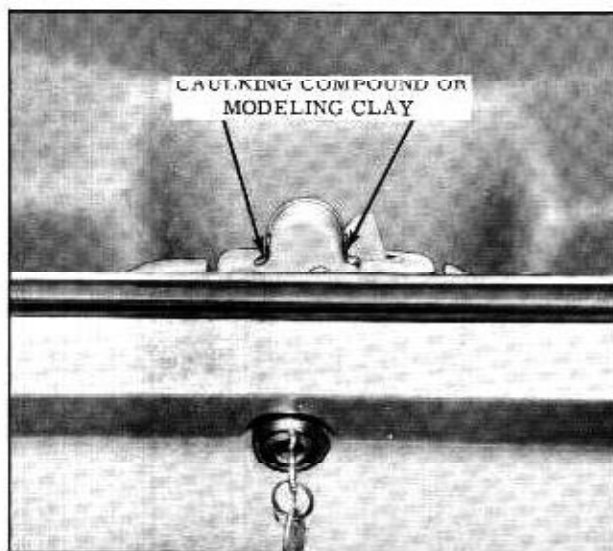

Fig. 15-48 Rear Compartment Lock Striker Engagement Check
1. Place a small amount of modeling clay or body caulking compound on frame of lock at both sides of the lock bolt. (Fig. 15-48) Close lid with moderate force.
2. Open lid and check amount of engagement of striker with lock frame, as indicated by the compression of the clay. The striker impressions in the clay should be even on both sides of the lock frame, as indicated in Fig. 15-48. Where required, loosen striker attaching screws; adjust striker sideways or up or down to obtain proper engagement, then tighten screws.